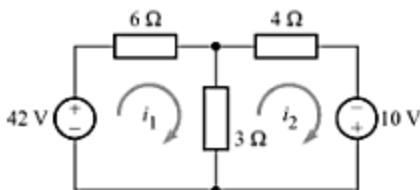

Fig. A-65
- A-22.** Use the technique of mesh analysis to determine  $i_1$  and  $i_2$  in the circuit of Fig. A-65, and hence find the power absorbed by the 3-Ω resistor.